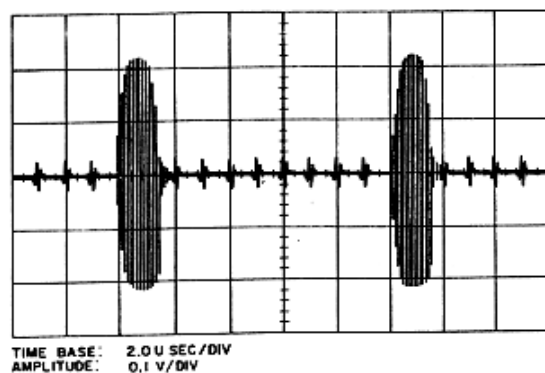

Figure 6.14 – Terminal E87 Waveform
h. Reconnect oscilloscope to terminal E87. The observed 100 kHz spectrum waveform should resemble the one shown in figure 6.14.